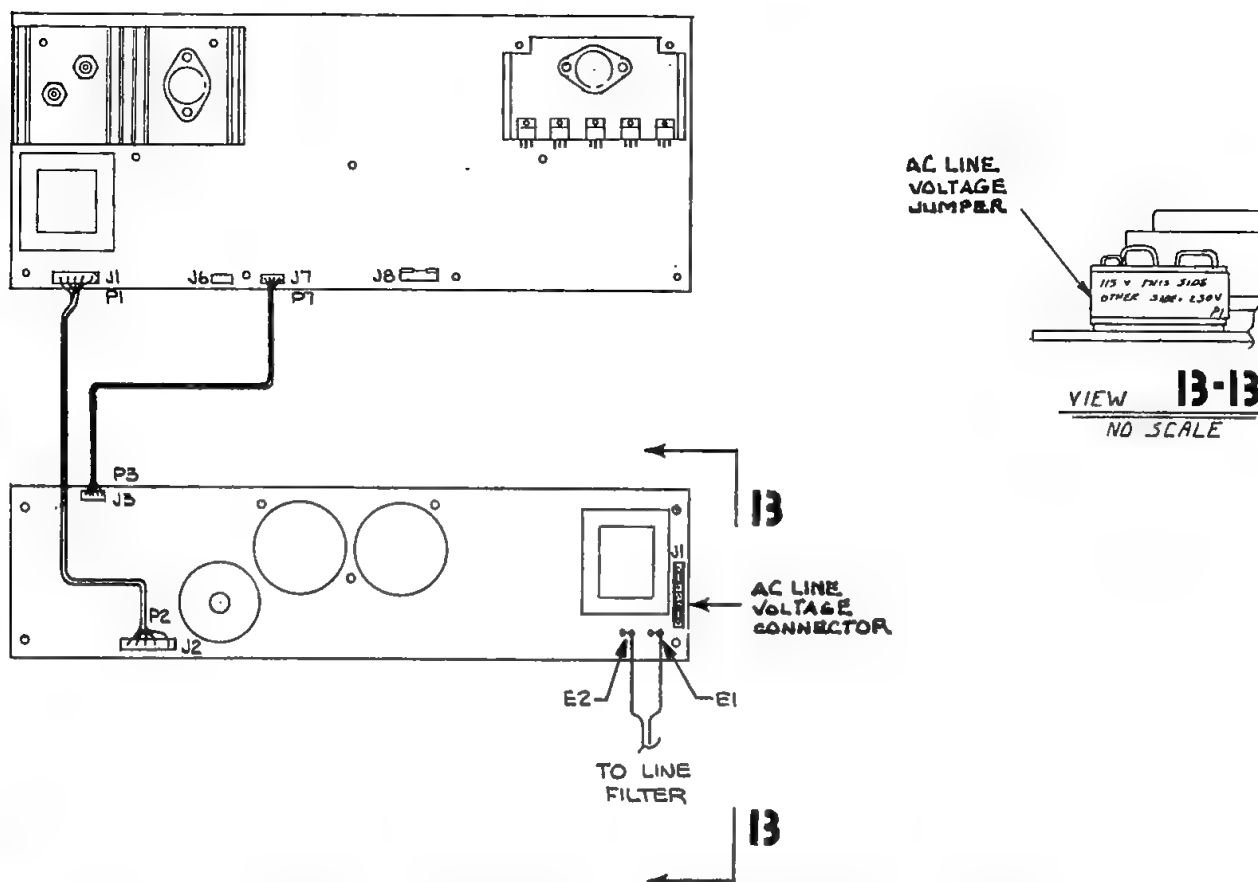

Figure 2-3. Power Supply AC Line Voltage Jumper Diagram
- e. Remove "115 Volt" jumper. Turn the jumper plug 180 degrees and re-install as the "220 Volt" jumper, see Figure 2-3.